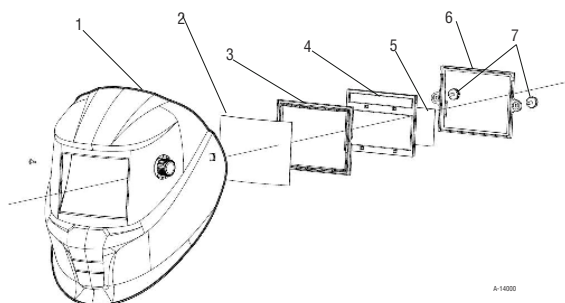

Figure 6-5
To insert the new front cover lens ② the filter must be removed by unscrewing the two retaining screws ⑦ from the inside of the helmet ①. The front cover lens ② can then be removed and the new lens inserted followed by the light seal cradle ③, ADF ④, inner cover lens ⑤ and then the ADF retaining frame ⑥ and finally replace the two retaining screws ⑦ (see Figure 6-5).